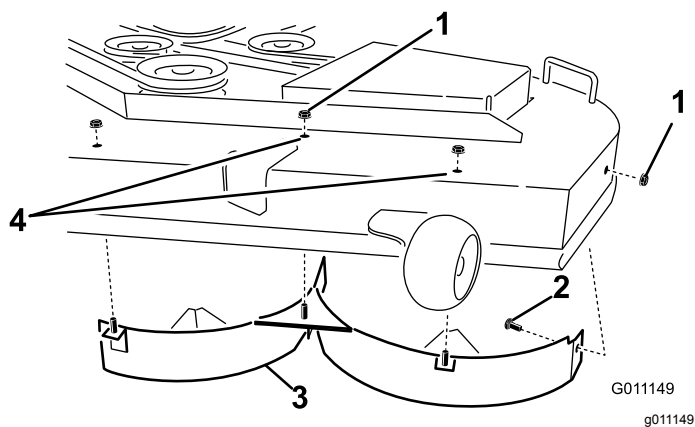

Figure 31
4. Remove the 2 locknuts (5/16 inch) secured to the welded posts of the left baffle on the top of the mower deck at the center and left of center positions (Figure 31).
- Remove the left baffle from the mower deck as shown in Figure 31.